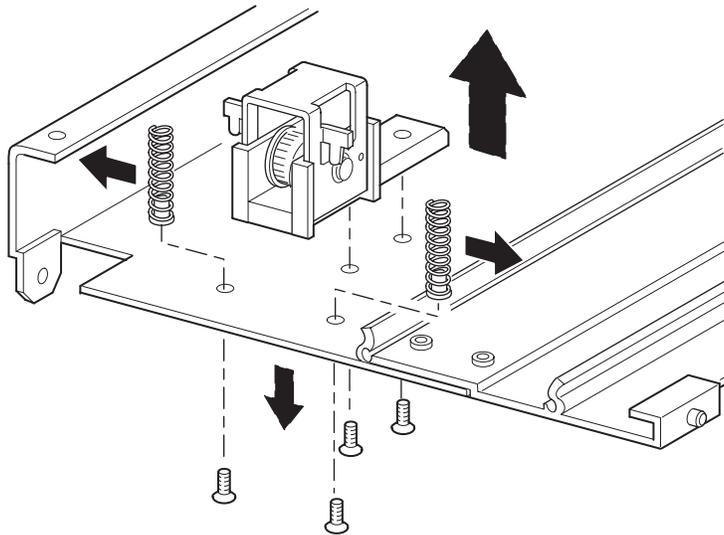

Figure 2–13: Removing the belt tensioner ramp and idler pulley
8. Mount a 5U or 10U extension as follows (see Figure 2–14):